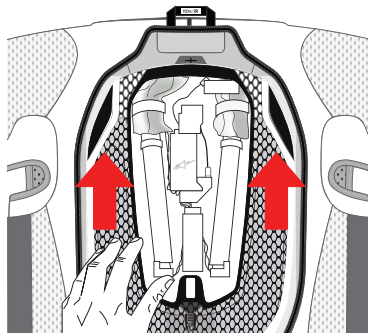

Figure 16: How to Detach the Gas Inflaters Housing (13) from the System
At this point you need to turn the System with the Back Protector (5) facing upwards and access the Airbag Control Unit (6) by opening the Cover (12). Now you must remove the Gas Inflators Housing (13) by lowering the lever found at the top edge of the Gas Inflators Housing (13) and located at the top edge in the center and between the two Gas Inflators (15) while pushing down, as shown in Figure 16. Next you must slide the carrier from bottom to top by placing your thumbs below the Gas Inflators (15) and pushing forward in an upwards direction toward the top back of the System. You need to push hard to release the black clips near the small steel screws that are present at the bottom of the Gas Inflators Housing (13). The Gas Inflators Housing (13) including all its parts (Electronic Control Unit (16), Battery (14), Gas Inflators (15)) can now be separated from the Base Layer (1), by also